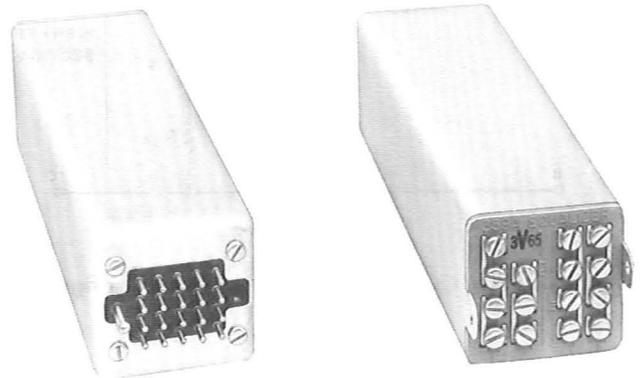

Fig. 1—359A Equalizer
2.01 The 359A equalizer (Fig. 1) is a plug-in unit equipped with a 20-pin connector plug and is designed to be plugged directly into the equalizer connector socket of the repeater mounting shelf.